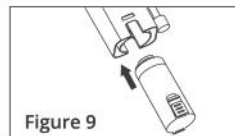

Figure 9
- Remove the filter package and the paperboard on two sides, align the buckles of the filter to notches of the water pumping unit, and insert a new filter. After the new filter is installed in place, the bottom of the filter is aligned with that of the water pumping unit, and there is a slight mechanical sound. (Figure 9)